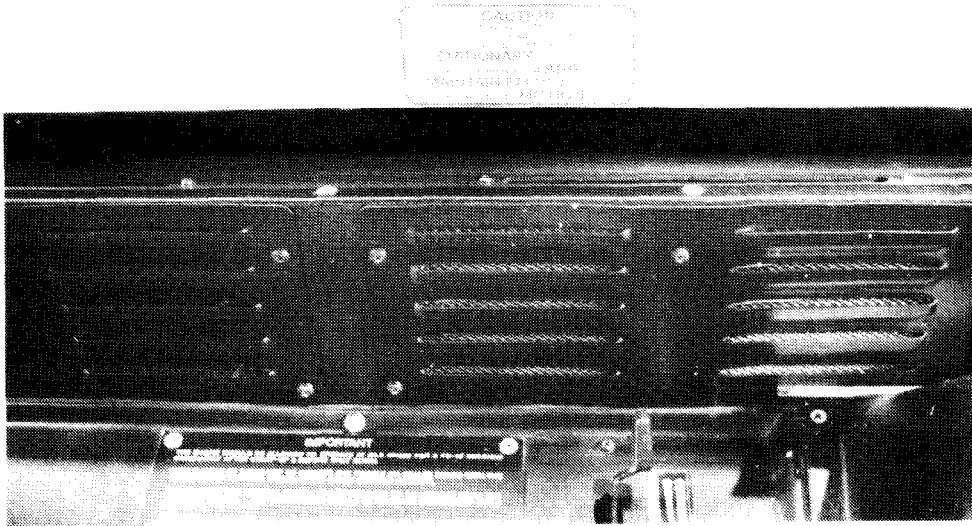

FIG 1 - POSITION OF CAUTION DECAL
8. Fitting. The decal is to be fitted to the inside of the windscreen in the position shown in Fig 1.